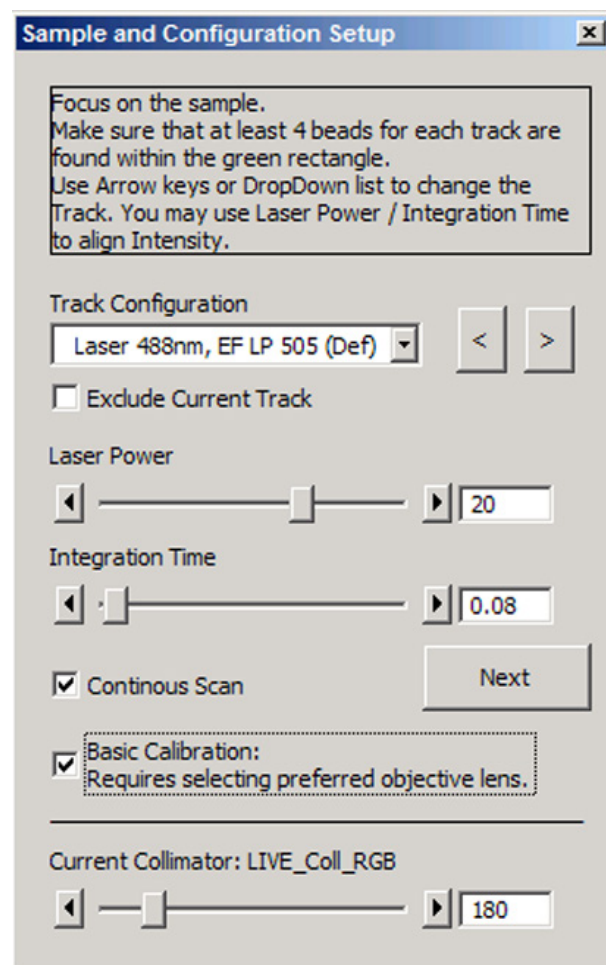

Fig. 10 Figure Sample and Configuration Setup Window of the KolliMatic Macro
- In Fig. 10, the Basic Calibration has been selected (Check box **Basic Calibration: Requires selecting preferred objective lens.**), therefore some more tracks are available